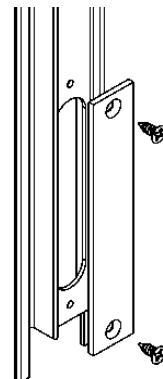

Figure 3:
7. On doors with meeting stiles, a stainless-steel cover is provided to cover the oblong holes at the bottom of the male meeting stile (Figure 3).